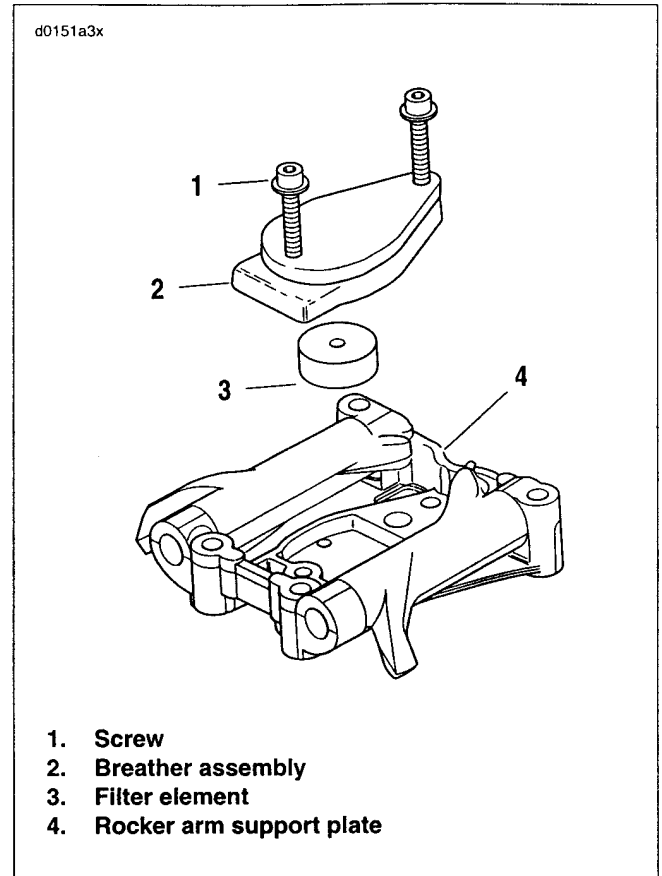

Figure 3-78. Breather Assembly
1. See Figure 3-78. Remove two screws (1) from breather assembly and remove breather assembly (2) from rocker arm support plate (4).
2. Remove and discard filter element (3) from bore on underside of breather assembly.